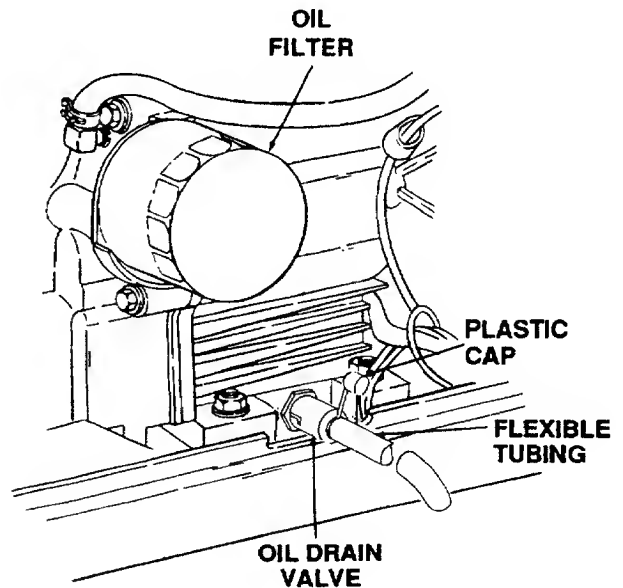

Figure 19
The oil filter is located behind the left side panel and is mounted on the engine. (See Figure 19.)
2. Unseat the plastic dust cap from the engine oil drain valve. To prevent loss of the cap, do not remove the captive retaining ring from the drain valve. (Refer to Figure 19.)